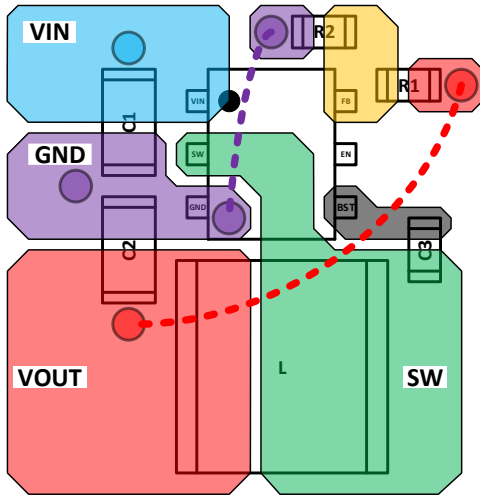

Figure 27. Recommended PCB Layout, SOT563 (Standard)
9. See Figure 27 and Figure 28 for more details.